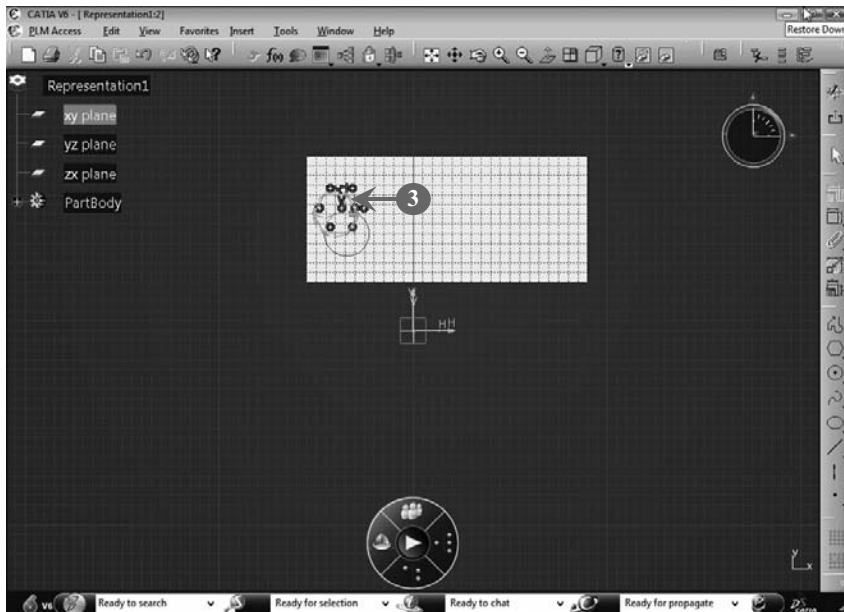

FIGURE 3.106
3. Add the shape to the sketch. In our case, a hexagon is added to the solid model, as shown in **Figure 3.106**: